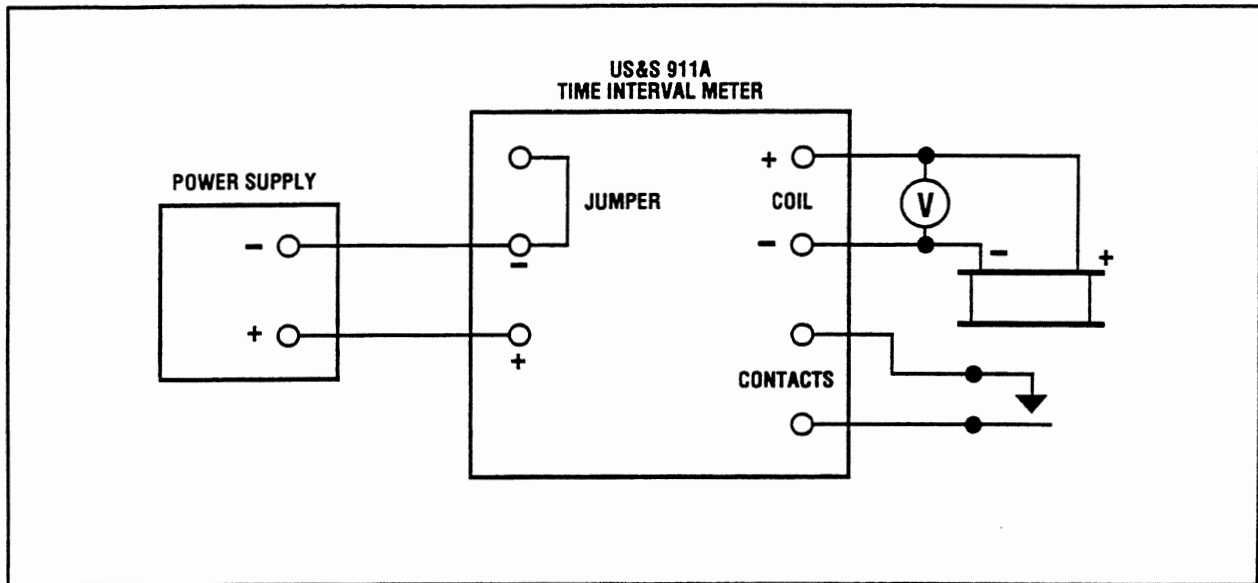
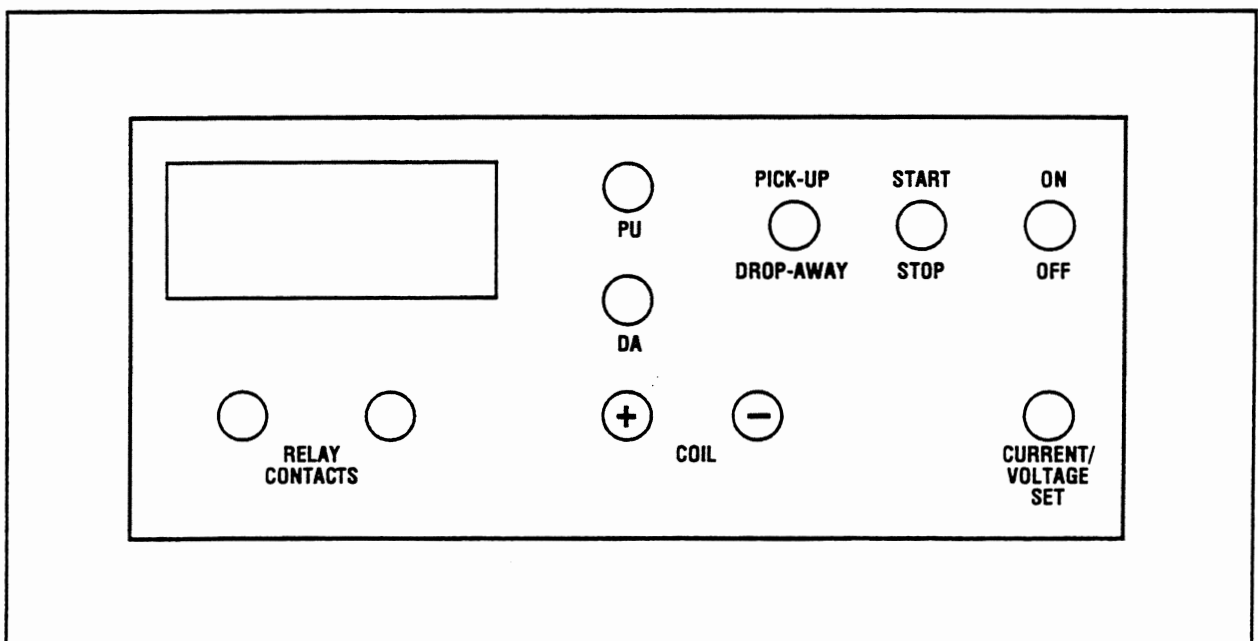

Figure 3-4. OPerating Time Measurement, Test Setup
Figure 3-5. Time Interval Meter, US&S 911A, Front Panel
- a. With the relay mounted as described in paragraph 3.6.1.3 upon conclusion of the biased relay tests, set the TIMER switch (23) to the TIMER position (down).
- b. Using a Time Interval Meter (TIM) US&S Model 911A, disconnect the jumper leads from the A+/A- jacks (8) and connect them to the corresponding EXTERNAL POWER jacks (+) and (-) on the rear of the TIM, as shown in Figure 3-4.
- c. Connect the TIM COIL jacks (Figure 3-5) to relay coil jacks A+/A- (8) (red to A+ and black to A-).
- d. Connect the TIM CONTACTS jacks across the F and H jacks (22).
- a. After completing the biased relay tests per paragraph 3.6.1.4, connect the relay into the test circuit shown in Figure 3-4.
- b. On the TIM (Figure 3-5), set the switches as follows:
- b. Using a Time Interval Meter (TIM) US&S Model 911A (Figure 3-5), disconnect the jumper leads from the A+/A-jacks (8) and connect them to the corresponding EXTERNAL POWER jacks (+) and (-) on the rear of the TIM, as shown in Figure 3-4.